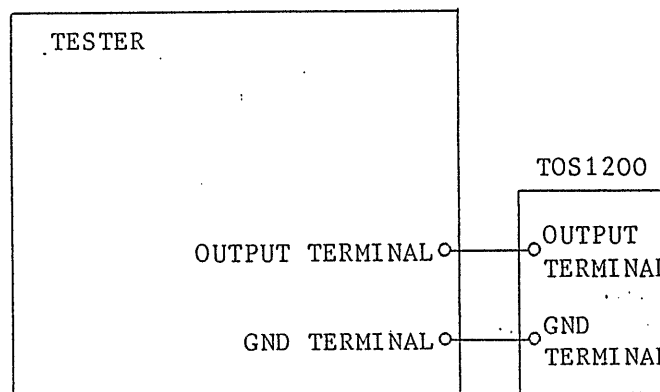

Figure 6.1
(5) Check of High Limit (CUTOFF CURRENT) Value of Leakage Current for Withstanding Voltage Test
- ① Only with the calibration of Item (4) above, the high limit reference value satisfies the specified judging accuracy. If it does not, the Tester is malfunctioning.
- ② Set the panel switches of the Tester as mentioned in Item (3) ①. Select the required high limit reference value of leakage current with the CUTOFF CURRENT switches.
- ③ Prepare a test setup using load resistors with milliammeter (Kikusui Model TOS1200) or using load resistors appropriate for CUTOFF CURRENT switches and an AC milliammeter, as shown in Figure 6.1 or 6.2. For the resistances of the load resistors, see Table 6.1.
- ⑤ Increasing the output voltage very slowly, read the value of the current immediately before an NG alarm is generated and the output is cutoff.
- ⑥ Repeat the procedure of ③ - ⑤ for individual high limit reference value (CUTOFF CURRENT) as required.
- (6) Calibration of Low Limit (LOWER REFERENCE) Value of Leakage Current for Withstanding Voltage Test
- ① Turn the LOWER REFERENCE control potentiometer to the fully clockwise position.
- ② Measure the voltage of TP111 with reference to TP112, with voltmeter III. Adjust RV102 so that the voltmeter reads 1.092 V \pm 0.2%.
- (7) Check of Low Limit Reference (LOWER REFERENCE) Value of Leakage Current for Withstanding Voltage Test.
- ① Only with the calibration of Item (6) above, the low limit reference value satisfies the specified judging accuracy. If it does not, the Tester is malfunctioning
- ② Set the panel switches of the Tester as mentioned in Item (3) ①. Select the required low limit reference value with the CUTOFF CURRENT switches.
- ③ Turn the LOWER REFERENCE potentiometer fully clockwise. As you do this, the low limit reference value is set at one-half of the high limit reference value set in Step ② above.
- ④ Prepare a test setup using resistors with milliammeter (Kikusui Model TOS1200) or using load resistors appropriate for low limit reference value and an AC milliammeter, as shown in Figure 6.1 or 6.2. For the resistances of the load resistors, see Table 6.1.
- ⑤ Set the Tester to the TEST ON state and gradually increase the output voltage to a point (approximately 1.1 kV) where the current becomes greater than the set low limit reference value by approximately +10%. (Keep the LOWER ON/OFF switch in the OFF state.)
- ⑥ Turn the LOWER ON/OFF switch to the ON state.
- ⑦ Gradually decrease the output voltage. The Tester will generate an NG alarm at appropriately 1 kV of output voltage. Slightly turn clockwise the TEST VOLTAGE dial. Set the Tester again to the TEST ON state.
- ⑧ Decreasing the output voltage very slowly, read the value immediately before an NG alarm is generated and the output is cutoff.
- ⑨ Repeat the procedure of ④ - ⑧ for individual leakage current values as required.
(8) Calibration of Insulation Resistance Tester
① Calibration of output voltage